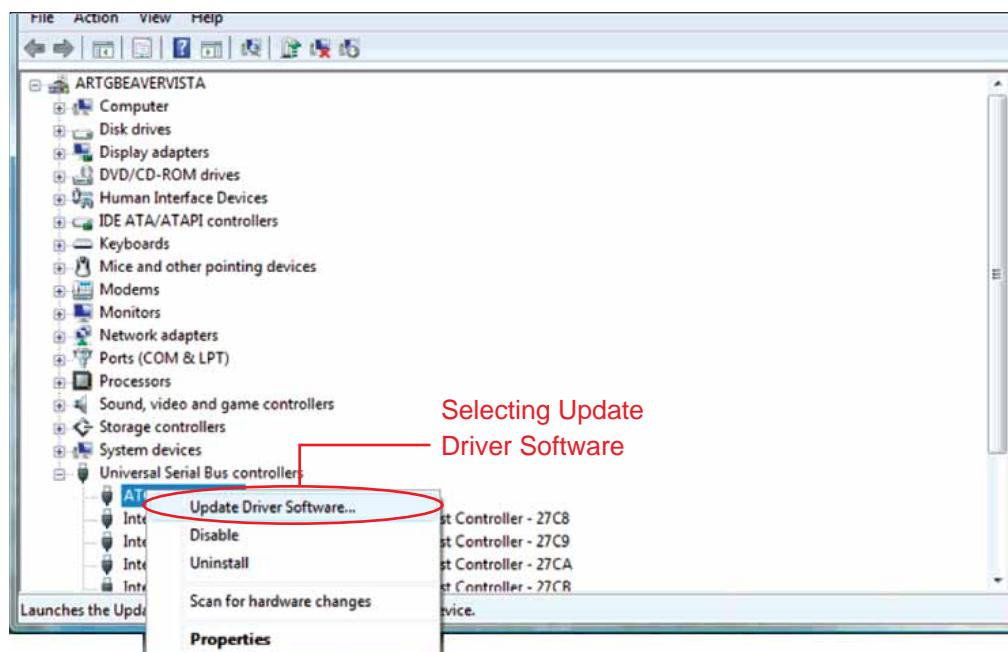

Figure 13-3. Selecting Update Driver Software.
7. Select **Update Driver Software** (Figure 13-3).